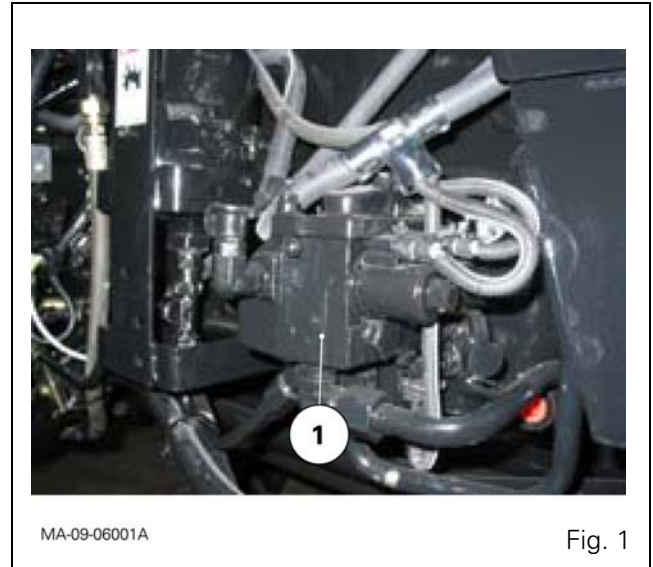

Fig. 1
The control unit (1) fixed to the right-hand side and front of the gearbox (Fig. 1) carries out two hydraulic functions quite distinct from the input unit.